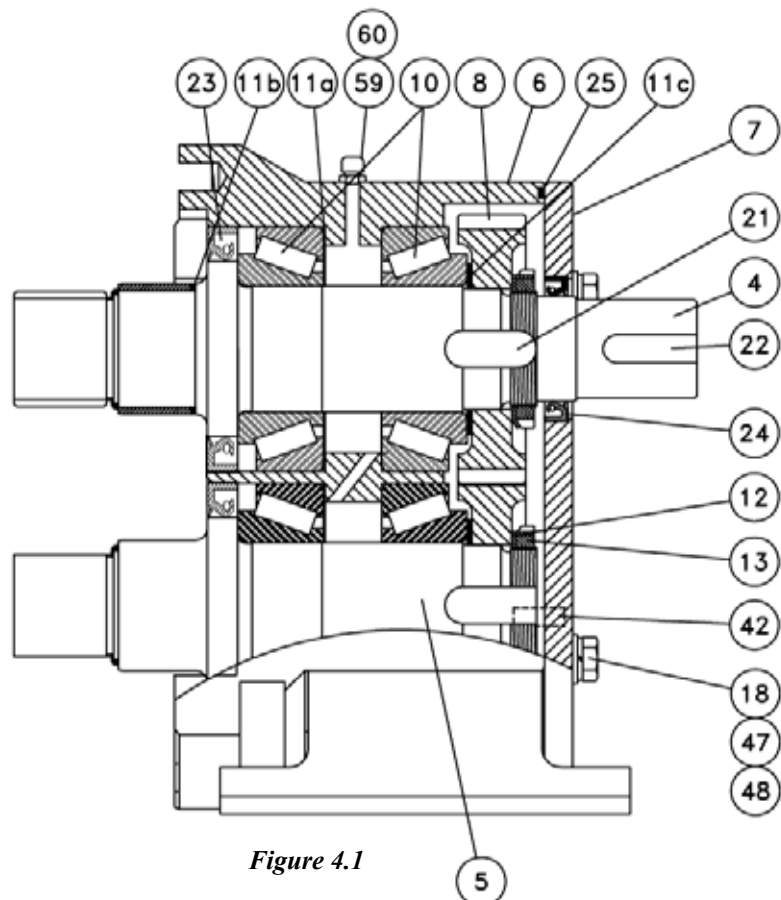

Figure 4.1
Remove the front cover, rotors, housing and shaft seals as described in section 2. Drain oil from the gearbox by removing the drain plug, if available, or by removing the cover (7), PTO drive shown in figure 4.1. Open the tab on the tab washers (12) and remove them and the slotted nuts (13). With a rubber mallet, strike the ends of the shafts where the tab washers were located to loosen the gears (8) and remove them. Be sure not to damage the threads on the shafts. The keys (21) will now be exposed and can be removed with a flat tipped screwdriver. Continue striking the shafts with the rubber mallet to push the shafts and the oil seals (23), which will get damaged and will have to be replaced, out of the gearbox. Each shaft will have one bearing (10) located next to a shoulder. To remove them, if necessary, do so with a hydraulic press or tap with a punch or sleeve on the edge closest to the shoulder. Use caution to prevent damage to the shaft shoulder. Tap the bearing cups (10), in a circular pattern to remove them from the gearbox. Behind one of the cups (10) are the shim rings (11a) which can now be removed.